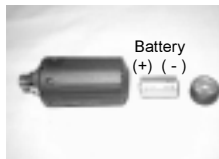

Fig. 132 - TMT BATTERY ORIENTATION
- Place a new 3 volt, CR2, Lithium Battery (Duracell model DL-CR2 or equivalent) positive (+) side down into the Battery Compartment with the negative end facing up/out (Fig. 132).